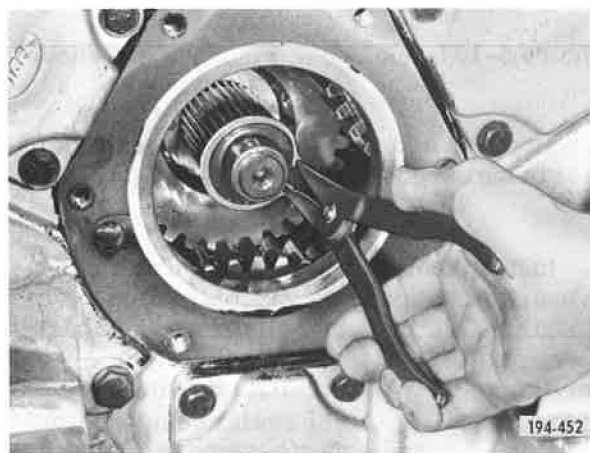

Figure 5-105. Installing Thrust Washer Retaining Snap Ring
21. Install fourth speed gear selective thrust washer retaining snap ring. See Figure 5-105.